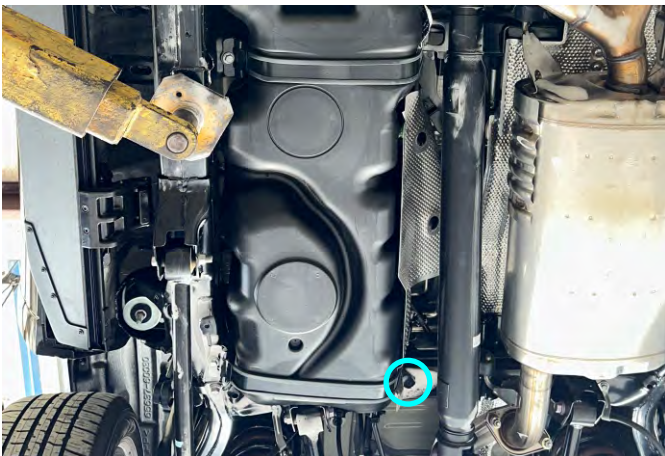

Fig. 3
2. Secure bracket 2 (item 3) using bolt M8x25 and washer M8 (items A, B) as shown in fig. 3, 4.